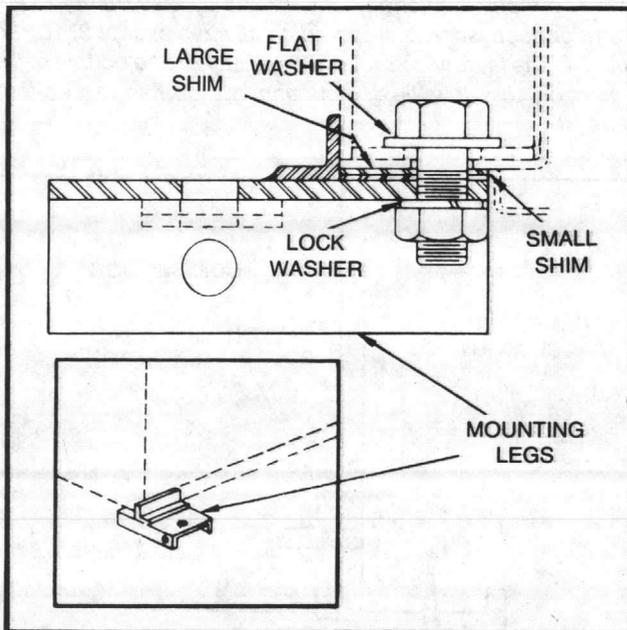

FIGURE 7 - Floor-Mounted Unit Leg Detail
1. Attach the mounting legs or channels to the unit, if necessary. See Figures 7 and 8. Note: When installing floor mounting legs it may be necessary to remove the bottom panel screw. This will allow the mounting leg to rest flush with the unit.